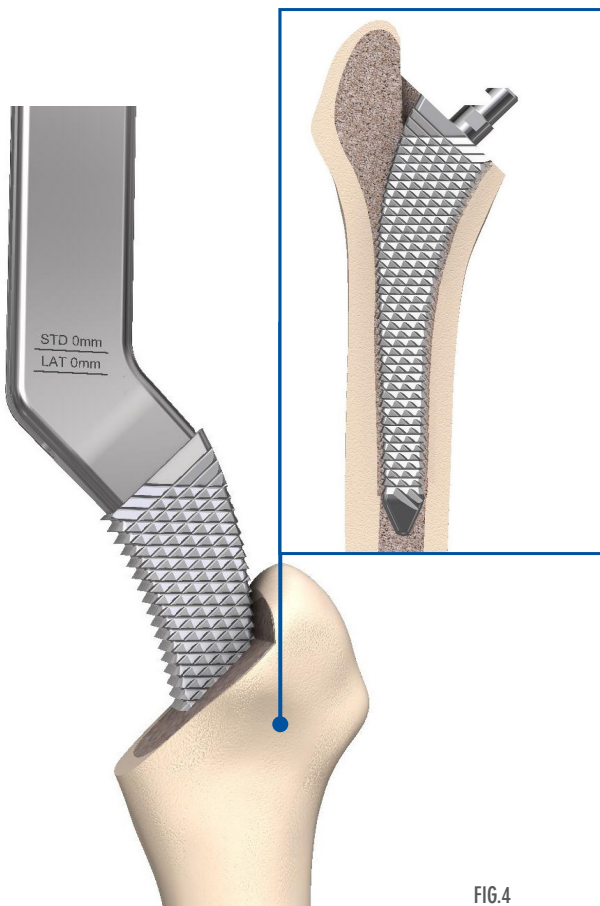

FIG.4
2. an appreciable condition of torsional stability (Fig.4)